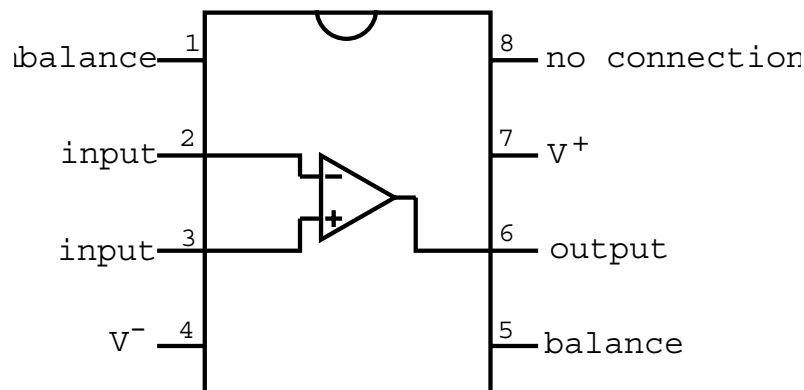
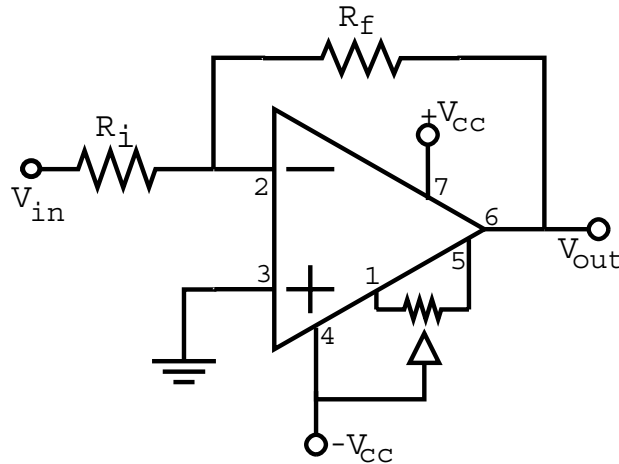

Figure 6: Pin diagram for an operational amplifier
Figure 7: “Typical connection” diagram for an operational amplifier
The pin diagram for the LF 351 N Op Amp is shown in Figure 6. In order to operate, the operational amplifier must be powered; this is the reason for connections 4 and 7. The two balance inputs, 1 and 5, are used with a variable resistor (potentiometer) to help achieve the ideal results as in the “typical connection” diagram in Figure 7.
1. Set up the “typical connection” shown in Fig.7 with $R_i = R_f$. Use resistors with a value larger than $10\text{ k}\Omega$ for these. Omit the potentiometer in the balance circuit, and leave the balance lines (1 and 5) unconnected.